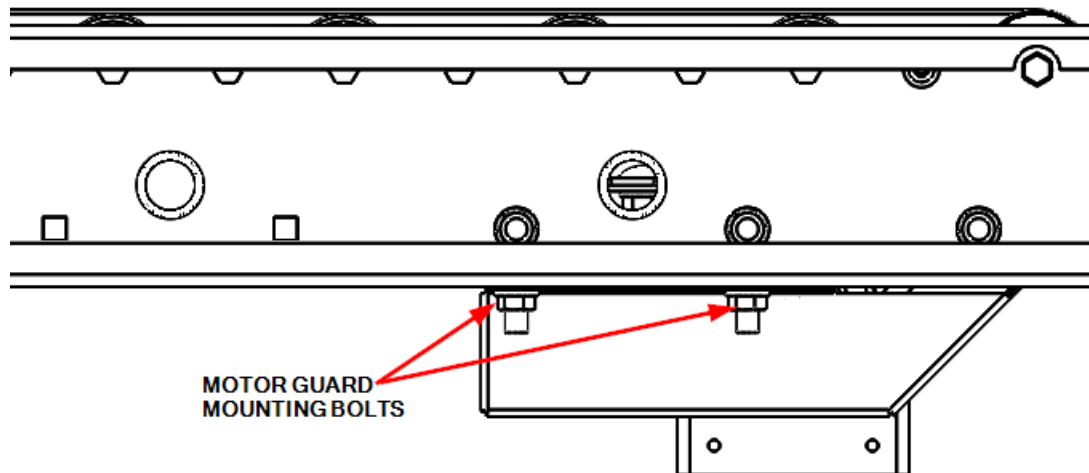

Figure 50: BRBDC Motor Guard
3. Remove the motor guard by loosening (2) bolts as shown in Figure 50.
9. Install the motor guard using two bolts shown in Figure 50. Torque bolts to 31ft-lbs.
9. Install motor guard using two bolts shown in Figure 50. Torque bolts to 31ft-lbs.